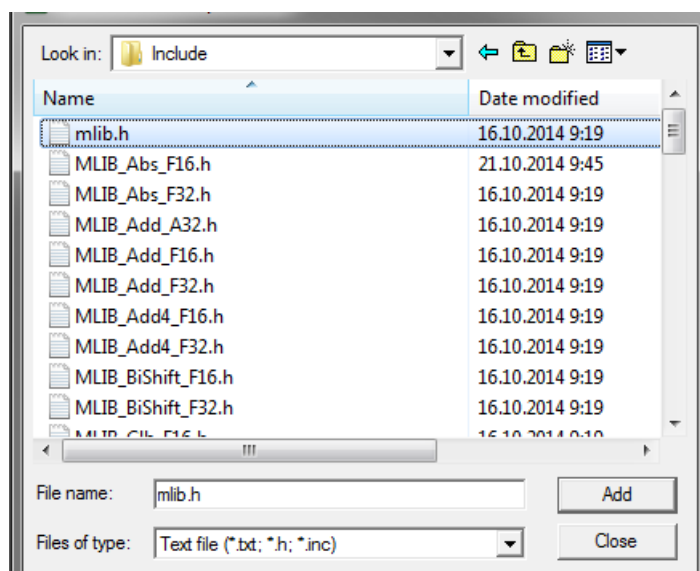

Figure 1-33. Adding .h files dialog
4. Navigate into the library installation folder C:\NXP\RTCESL\CM0_RTCESL_4.5_KEIL\MLIB\Include, and select the *mllib.h* file. If the file does not appear, set the Files of type filter to Text file. Click Add. See Figure 1-33.